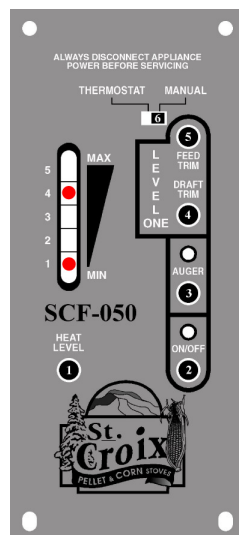

Figure 3
- b. The first and fourth LED lights indicate the #1 **Low** setting. (2.0 second on time) This is the medium Pilot setting and may be used when heating a medium size home where less heat is needed when the unit is running in pilot mode. (See figure 3)